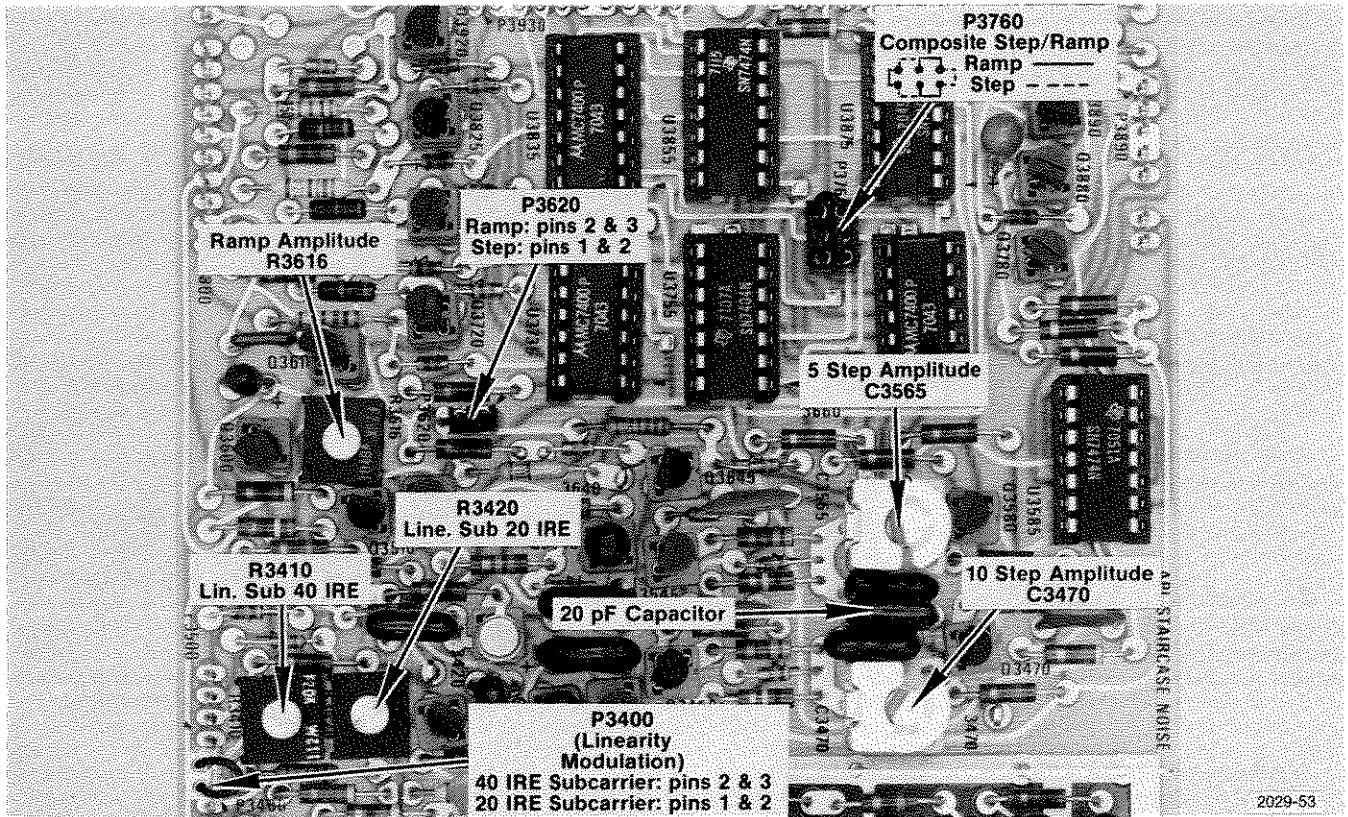

Fig. 1-21. APL and Staircase circuit board location of selector plugs and adjustments for LINEARITY operating changes.
As shipped from the factory, the LINEARITY test signal modulation amplitude is 40 IRE peak-to-peak. To obtain a modulation amplitude of 20 IRE peak-to-peak, change the connector on pins 2 and 3 of P3400 (see Fig. 1-21) to pins 1 and 2.
| 5 STEP | Set the LINEARITY switches for 5 STEPS and SUBCARRIER OFF. For a 5 Step amplitude of between 80 and 90 IRE, adjust C3565 (see Fig. 1-21) for the desired amplitude. For a 149A 5 Step amplitude of between 90 and 100 IRE, connect P3470 between pins 2 and 3 (see Fig. 1-21) and adjust C3565 for the desired amplitude. For a 147A 5 Step amplitude between 90 and 100 IRE, connect C3467 to the socket provided, and adjust C3565 for the desired amplitude. |
As shipped from the factory, the 5 Step Staircase is generated as a portion of the COMPOSITE signal. To replace the steps with a ramp, rotate P3760 (see Fig. 1-21) 180°, and connect P3620 (see Fig. 1-21) between pins 2 and 3.
- c. Change the connector between pins 1 and 2 of P3620 (see Fig. 1-21) to pins 2 and 3.
As factory-connected, the FLAT FIELD BOUNCE signal switches on line 57. If desired, the switching can be made to occur at random by changing the connector on pins 2 and 3 of P3926 (see Fig. 1-21) to pins 1 and 2.